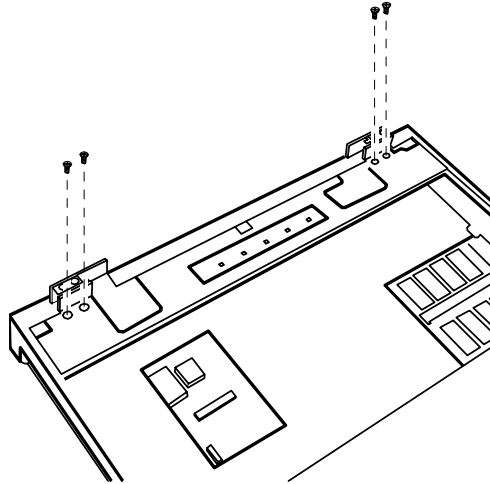

FIGURE 7-31. REMOVING FOUR SCREWS FROM NEAR THE HINGES
5. REMOVE THE FOUR SCREWS FROM NEAR THE HINGES. (REFER TO FIGURE 7-31 ON THE NEXT PAGE).